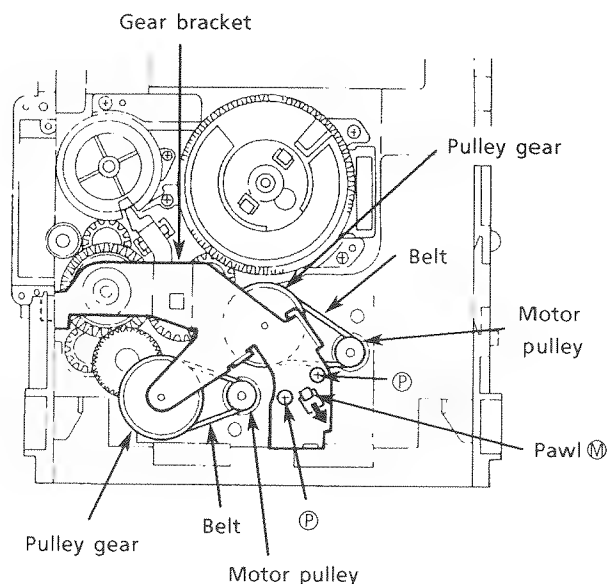

Fig. 44
(See Fig. 44.)
2. Press the pawl (M) securing the gear bracket to the arrow in the figure to remove the gear bracket. (See Fig. 44.)
4. Remove each belts from the both actuator motor pulleys and the pulley gears. (See Fig. 44.)